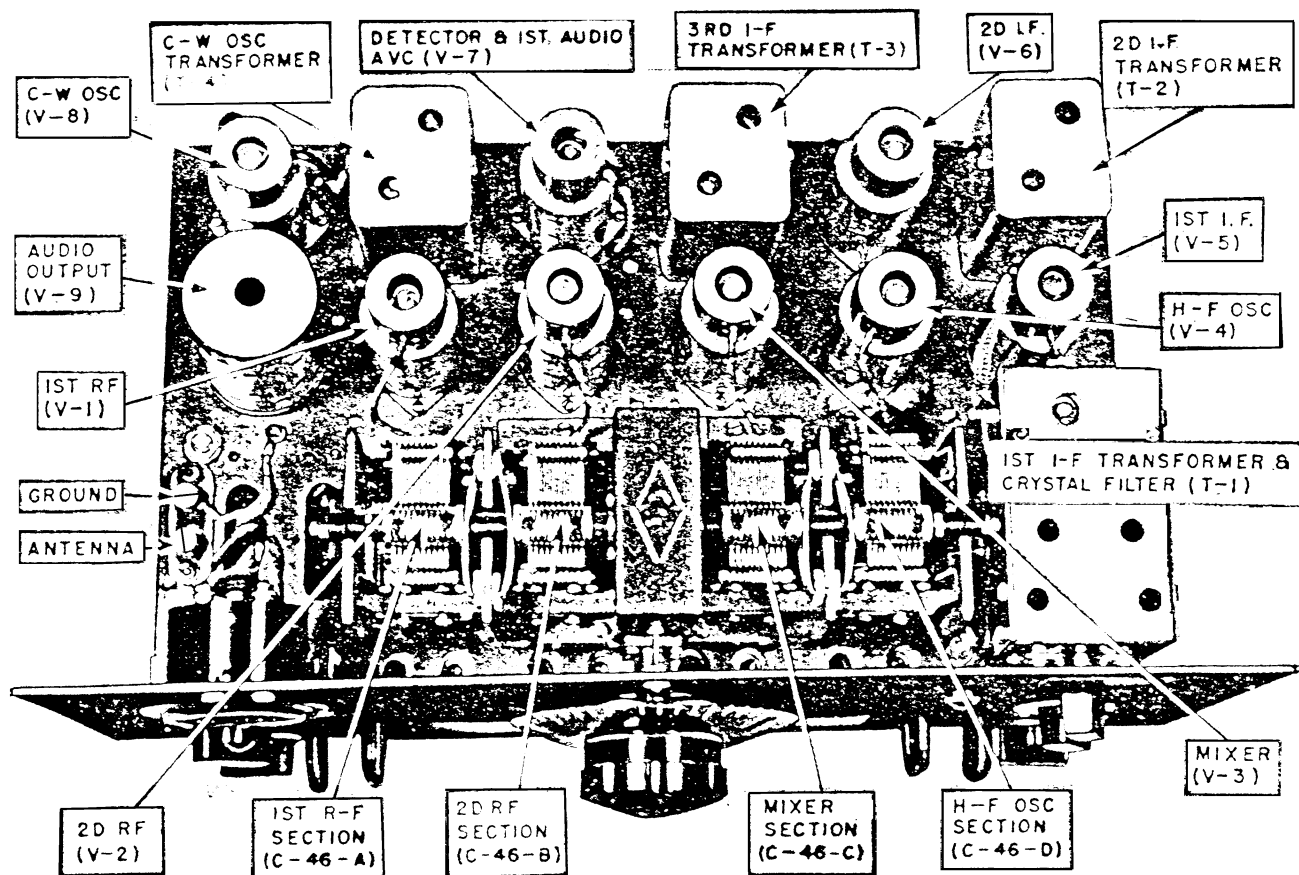

Figure 22. Location of tubes and components.
a. **TUBES.** Remove the tubes from the packing case and check their physical condition. (See fig. 22 for proper location of tubes on the chassis.) When inserting the tubes in their respective sockets, align the key on the aligning